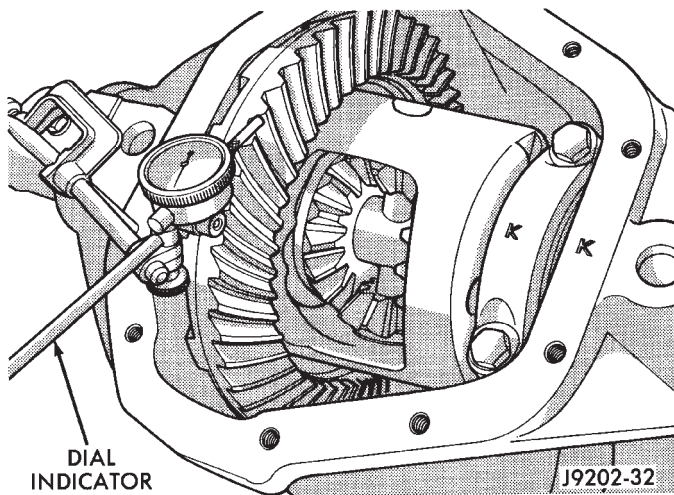

Fig. 65 Ring Gear Backlash Measurement
(1) Rotate assembly several revolutions to seat bearings. Measure backlash at three equally spaced locations around the perimeter of the ring gear with a dial indicator (Fig. 65).